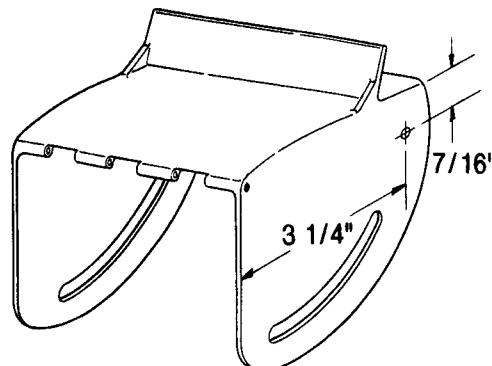

FIGURE 3
**STEP 5:** Drill 1/4" hole in deflector as shown in figure 3. Insert eyebolt and retaining hardware into hole, do not overtighten, the eye-bolt must pivot smoothly and freely as the deflector moves up and down.